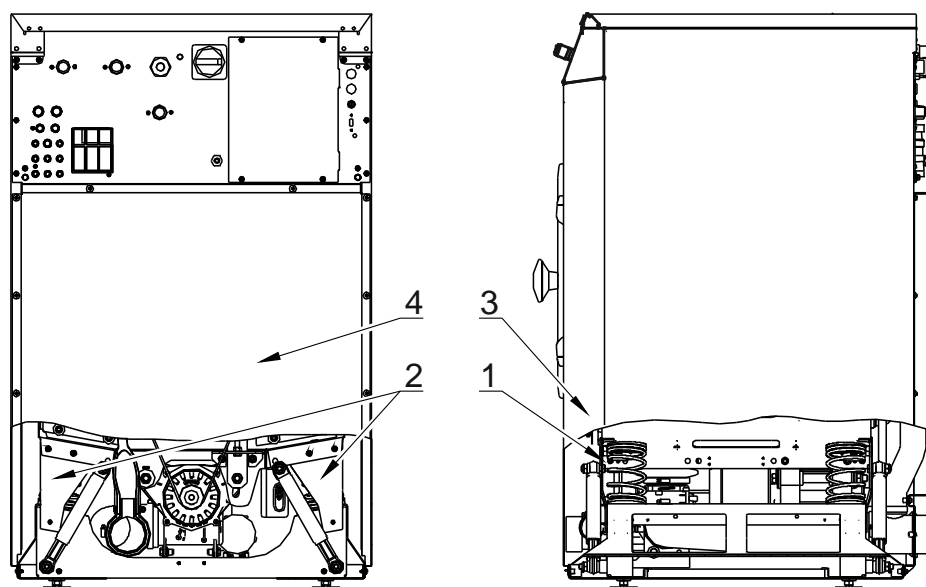

Figure 2
- Remove front and rear panel, see Figure 2., pos.3, 4.
- Remove both front metal transport holders, pos. 1.
- Remove both rear transport holders, pos. 2.